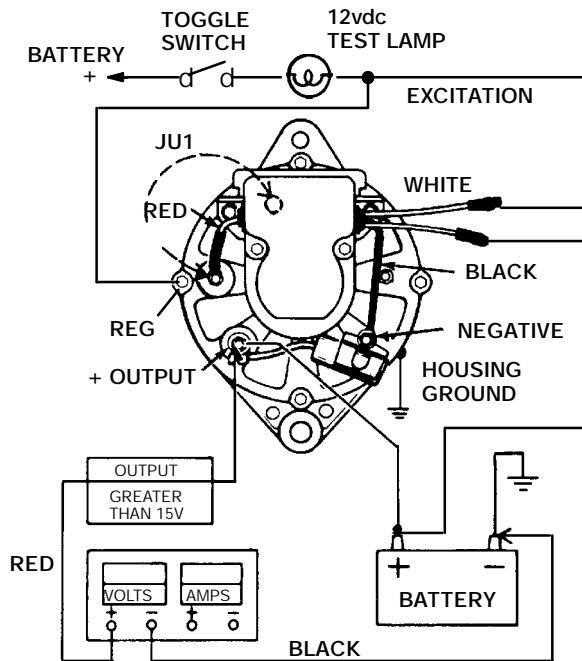

Figure 4-6. Open Diode-Trio Test – 37 Amp
- a. Remove regulator from alternator housing (refer to section 4.4.8) leaving leads connected. Add jumper (JUI) between the output and regulator terminals and connect voltmeter as shown in Figure 4-6.